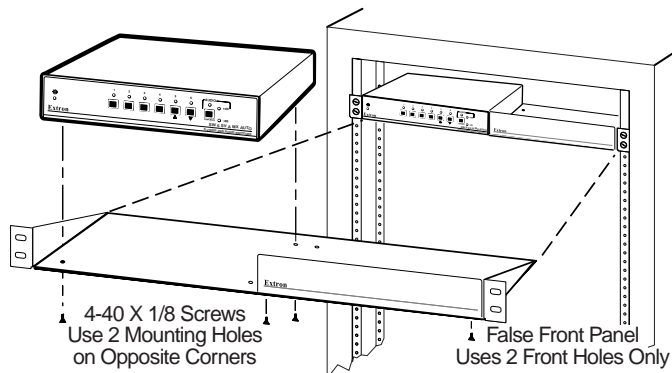

Figure 2-1 — Rack mounting the switcher
1. For optional rack mounting, mount the A/V switcher on the left or right side of a 19" 1U Universal Rack Shelf (Extron part #60-190-01) (figure 2-1).